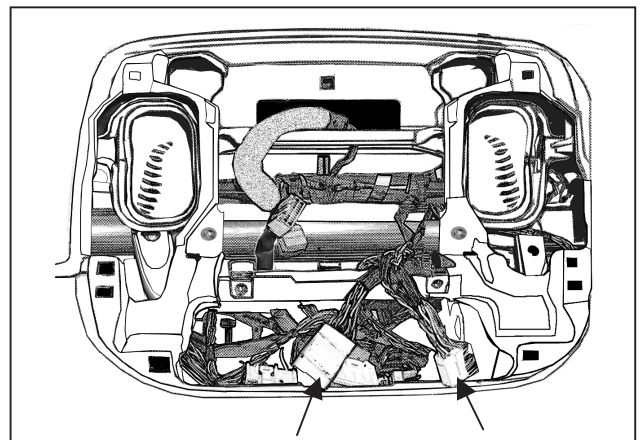

Figure E3
- ➡ 4. Route wire harness through center cluster as shown in Figure E3.